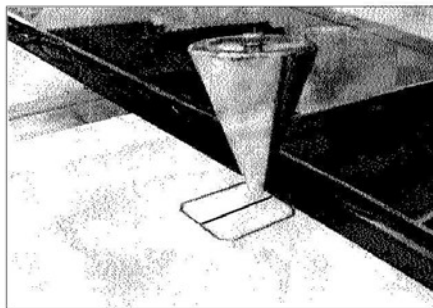
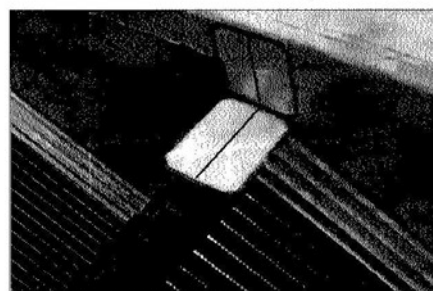

Fig 1
Fig 3
5.1.1 Stick a marker on the surface of straight line section and then decide the corresponding position on the exterior covering plate by using the line regulator(See Fig1).At the same time,make a mark on the step and decide the corresponding position of skirt plate(See Fig 3);